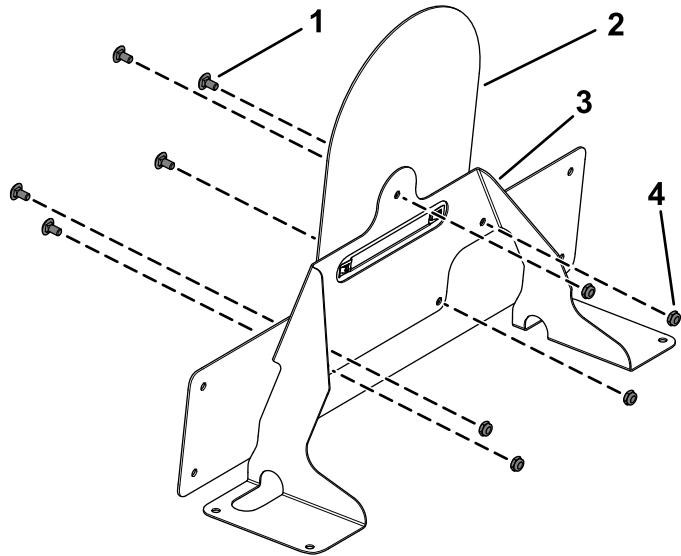

Figure 27
7. Secure the speed-plate mount to the marker mount using 5 carriage bolts (1/4 x 1/2 inch) and 5 locknuts (1/4 inch) as shown in Figure 27.